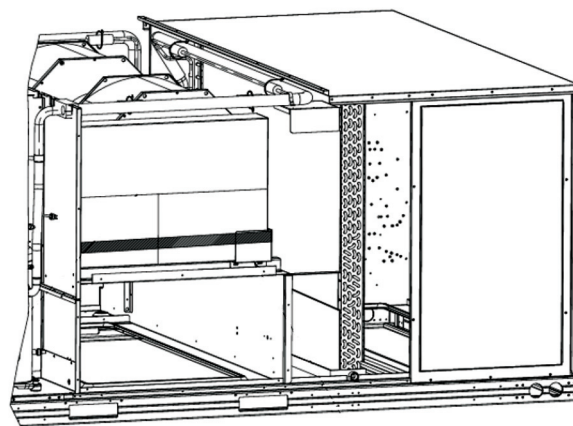

Fig. 27 — Barometric Hood Box Parts Location
2. Remove the side panels located in the hood parts box (see Fig. 27).